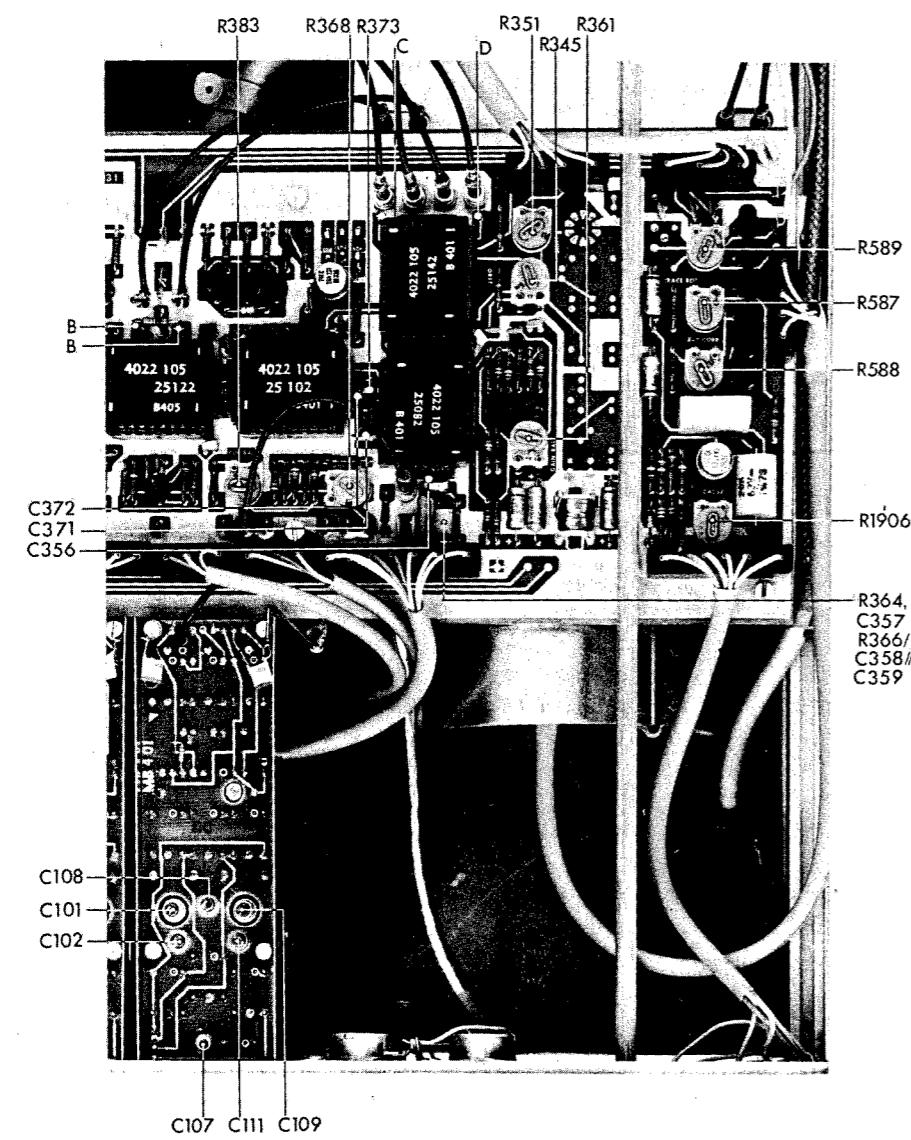

Fig. 3.15. Intermediate amplifier board with adjusting references
- Check that the amplitude is  $3 \text{ V} \pm 0.7\%$ ; if necessary, readjust CAL SP potentiometer R1906 Fig. 3.15 on the intermediate-amplifier board.